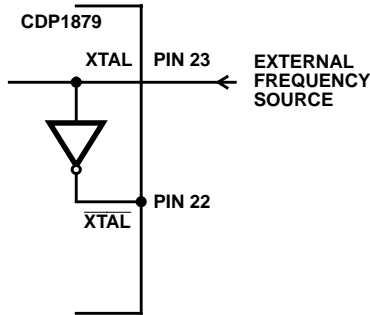

FIGURE 5. CONNECTIONS FOR AN EXTERNAL FREQUENCY SOURCE APPLIED TO REAL-TIME CLOCK
2. An external frequency input that is supplied at the XTAL input. XTAL is left open (see Figure 5). A typical external oscillator circuit is shown in Figure 7 in section, "Standby (Timekeeping) Voltage Operation".